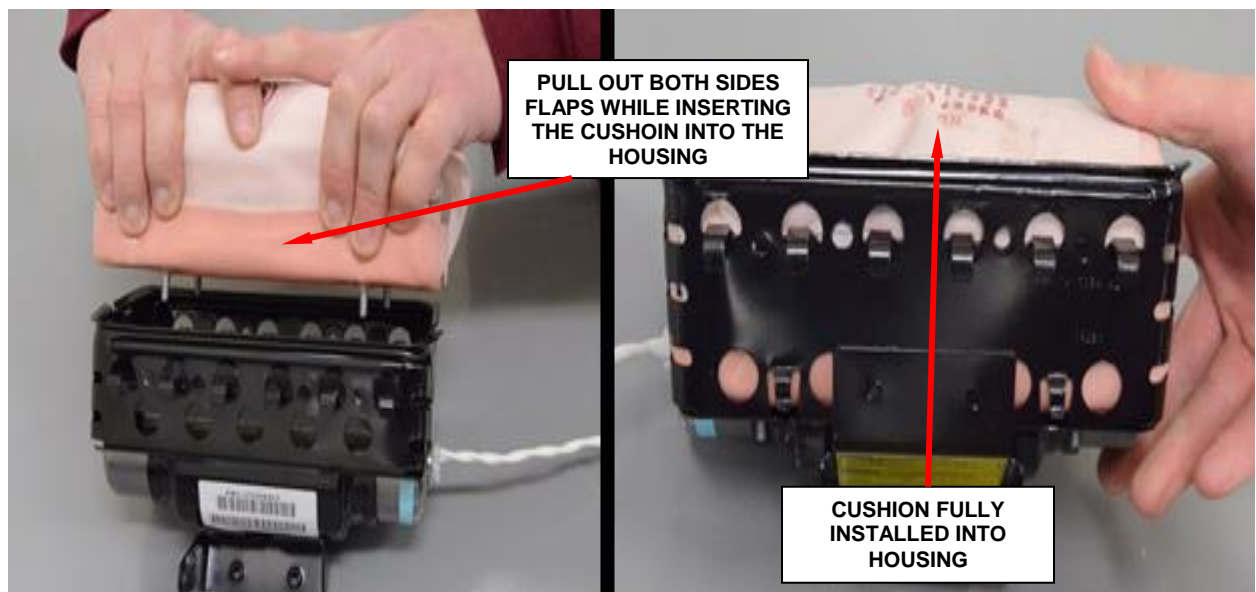

Figure 97 - Side Flaps Must Be Held Out
- l. Insert the cushion, pulling out both side flaps (Figure 97).